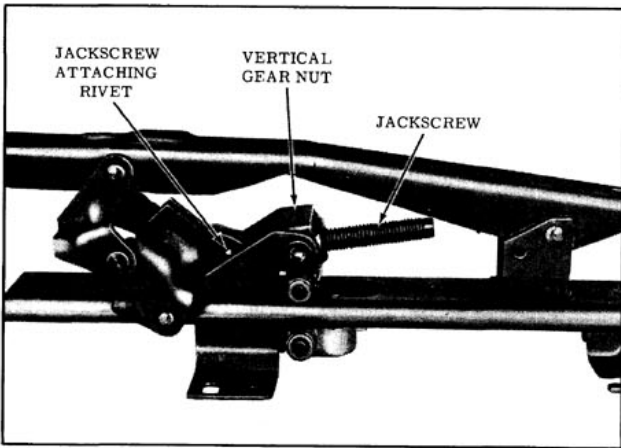

Fig. 16-94 Four-Way Tilt Seat Adjuster
3. As a bench operation, remove jackscrew-to-adjuster linkage attaching rivet and remove jackscrew from adjuster assembly. (Fig. 16-94)